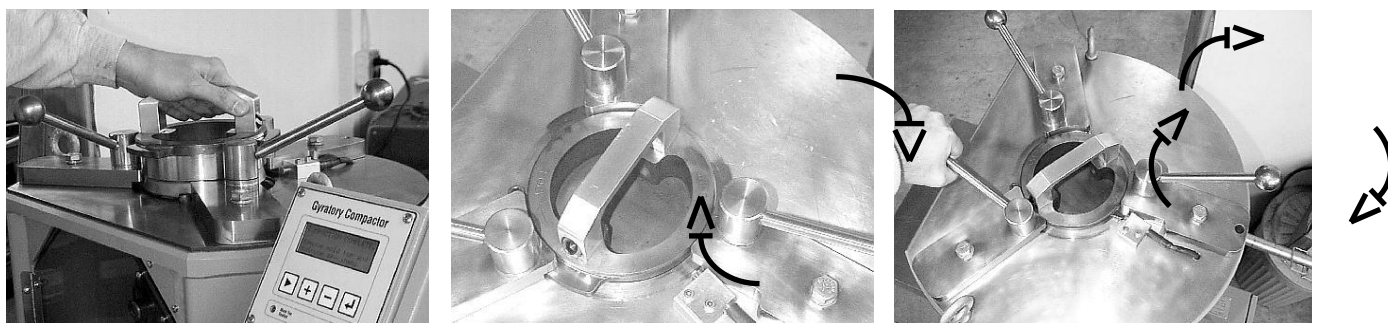

Figure 5.1: Insert the mold top
- Select **VERIFY FORCE** then press the  button. If the mold top is not in position, install the mold top. Make sure the mold top is locked in place with the clamps. (Figure 5.1)
- Be sure the proper mold top is in position and locked in place with the clamps (Figure 5.1). Be certain the proper ram foot is installed as well (Figure 6.1).